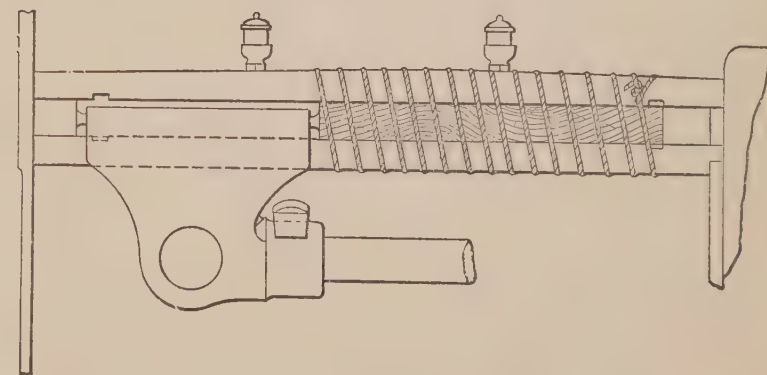

Fig. 201. Blocked Crosshead.
A. See pages 311, 314 ; also figure 201.